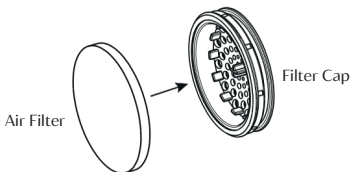

Fig 11-1
1. Attach the air filter to the filter cap, as shown in Fig. 11-1.